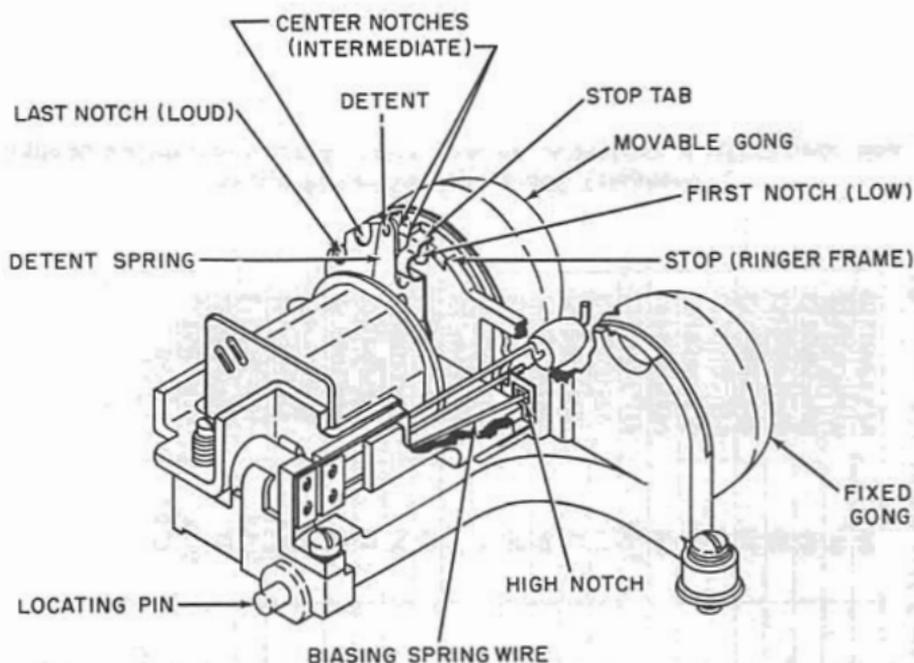

Figure 2
- d. Outline view—Fig. 2, page 59.